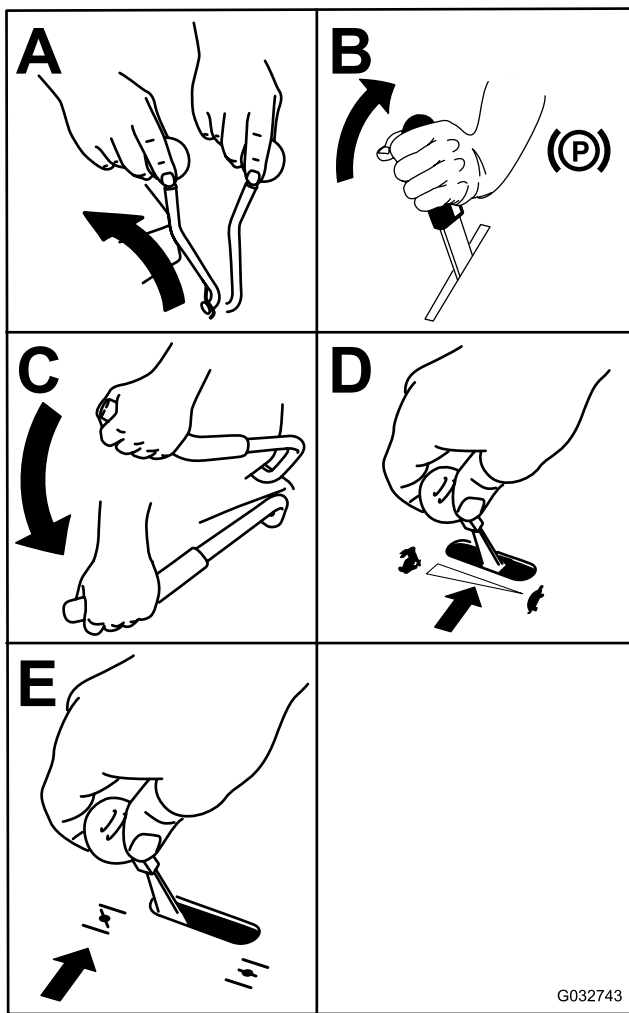

Figure 21
3. Move the PTO-engagement lever to the OFF position (Figure 21).
- Turn the key to the START position (Figure 21). When the engine starts, release the key.